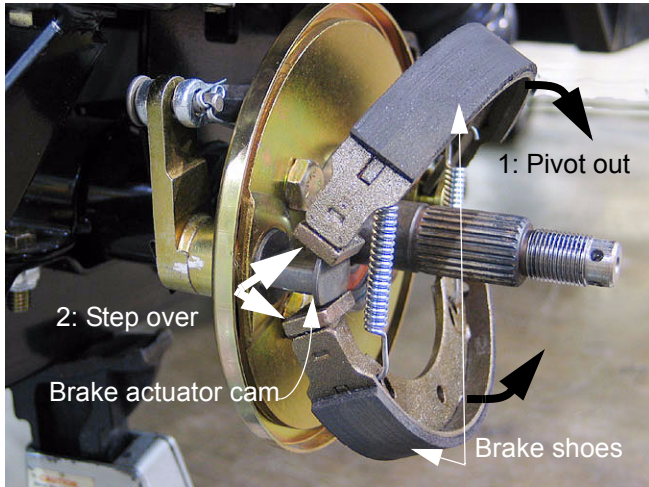

Figure 2.13
2.13. Using either a screwdriver or a brake adjusting spoon, step the shoes over the end of the cam. See Figure 2.13.